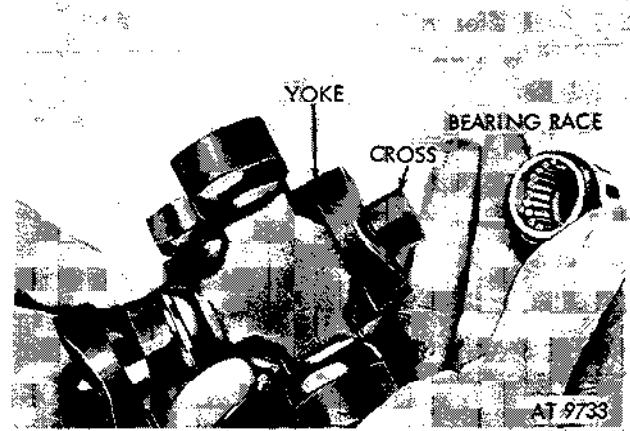

Figure 2-303. Removing bearing race from cross.
(4) Remove bearing races from cross (fig. 2-303).
(5) Remove cross from yoke.